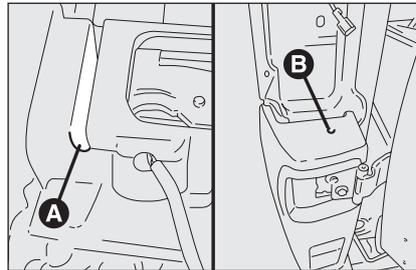

fig. 30b
- unscrew lower fastening **A** between the central and side bumper fig. 30b;
- after removing the tail-light, unscrew upper fastening **B**-fig. 30b;